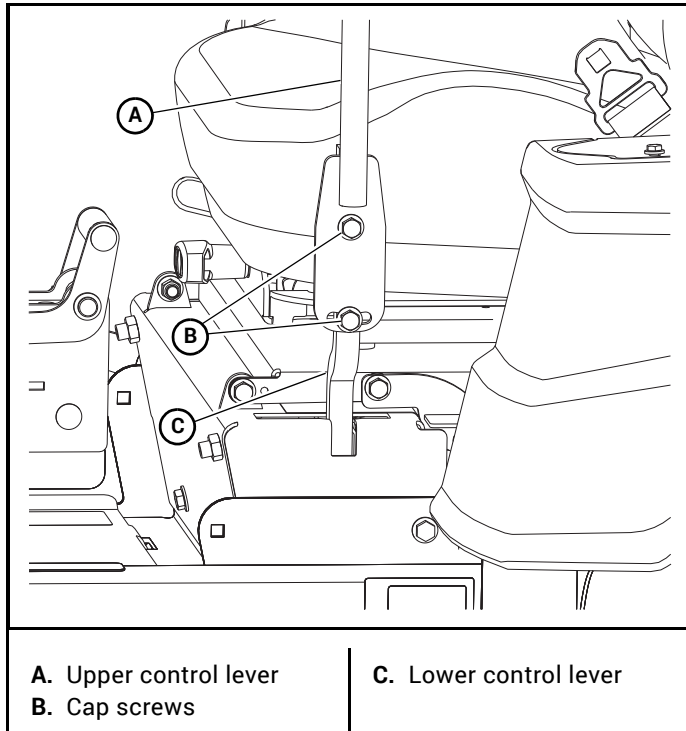

Figure 4-25
- A. To pivot the upper control levers forward or rearward, loosen the cap screws that attach the upper control lever to the lower lever. Then, pivot the upper control lever. Tighten the cap screws. Figure 4-25
- B. To lower and raise the control levers, remove the cap screws. Slide the upper control lever up or down and align the holes in it with the holes in the lower lever. Re-install the cap screws and tighten. Figure 4-25